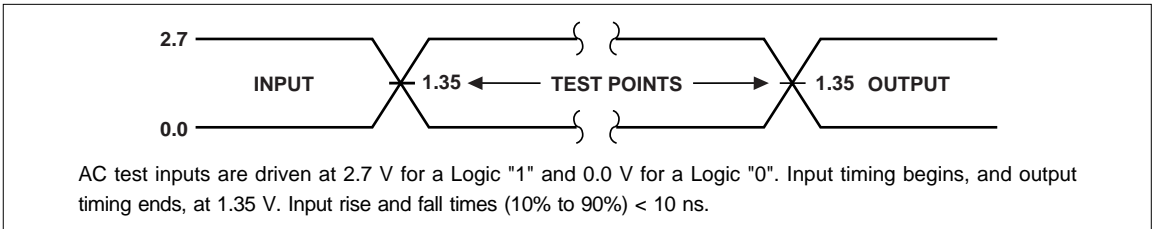
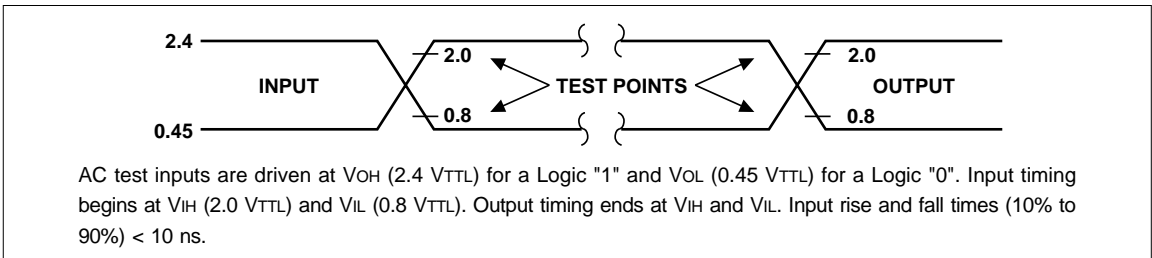

Fig. 7 Transient Input/Output Reference Waveform for Vcc = 2.7 to 3.6 V
Fig. 9 Transient Input/Output Reference Waveform for Vcc = 5.0±0.5 V (Standard Testing Configuration)
1. See AC Input/Output Reference Waveform (Fig. 7 through Fig. 9) for maximum allowable input slew rate.